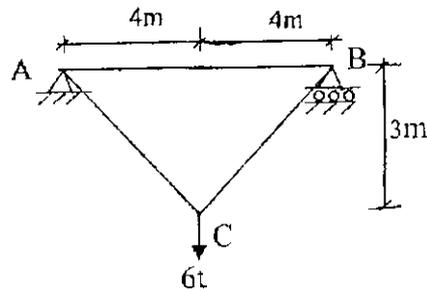

Fig. 11 (a)
11. (a) A pin jointed frame shown in fig. 11 (a) is carrying a load of 6 tonnes at C